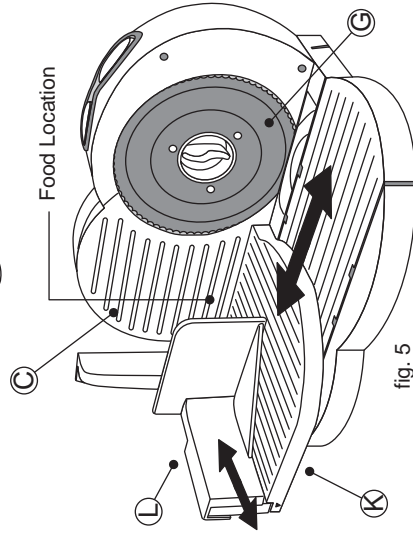

fig. 5
3. Slide the Food Tray **K** away from the Blade **G**. Place the food to be sliced on the Food Tray **K**, positioned between the Face Plate **C** and Protective Guide **L**. **See fig. 5.**